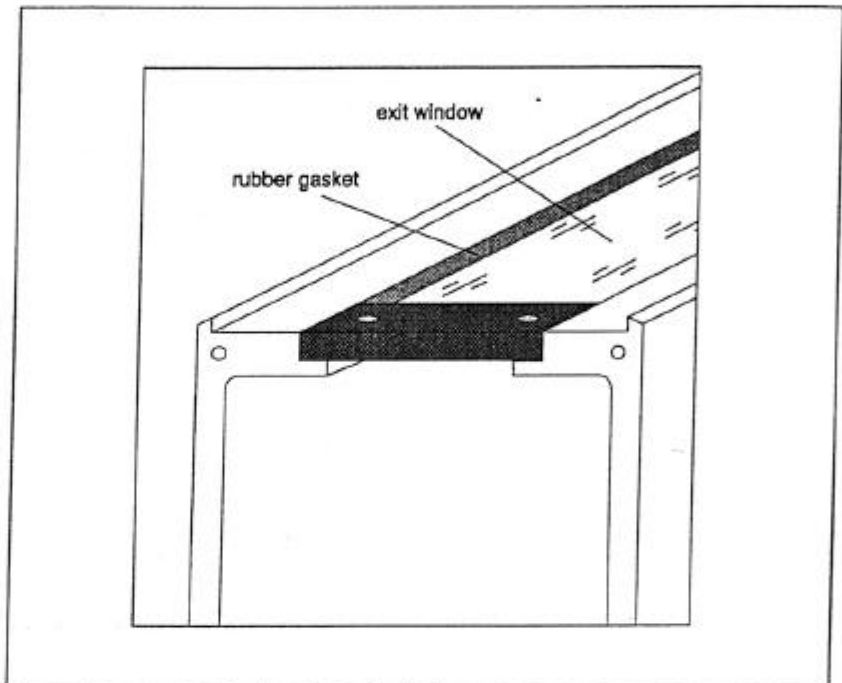

Figure 12-2 Replacing the exit window
3. Insert new exit window (Figure 12-2).